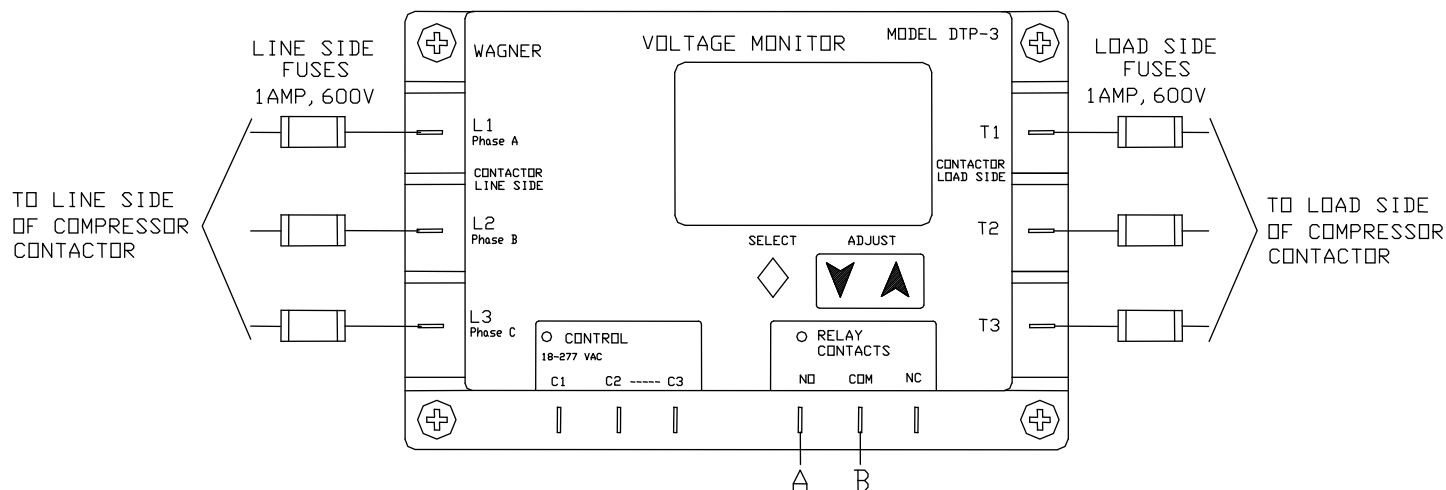

FIGURE 10-1
3. Connect Power Monitor Relay Contacts, COM & N.O. connections shown as “A” & “B” on the Figure 10-1, to wire # 12 & #13 in the ice machine’s control panel.